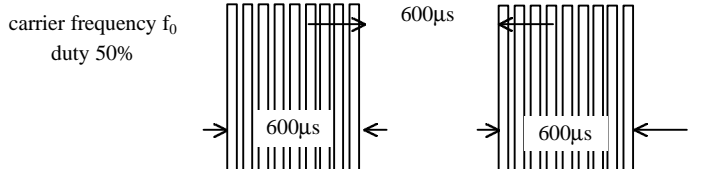

Fig 1. Burst Wave
- (3) Standard transmitter ...Burst wave indicated in Fig 1. of standard transmitter